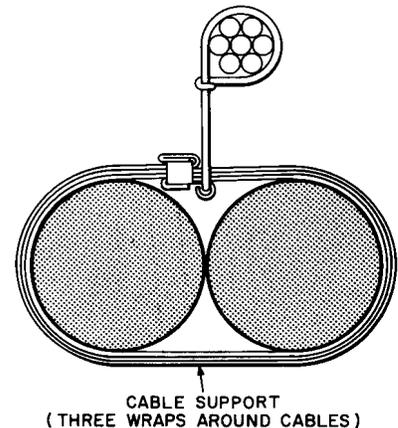

Fig. 21—B Lashed Cable Support With Wire Hanger Used to Support Two or More Cables
6.05 When a B lashed cable support with wire hanger is used to support two or more cables, the installation is performed as described in 6.02 with three wraps of the strap around the cables as shown in Fig. 21.